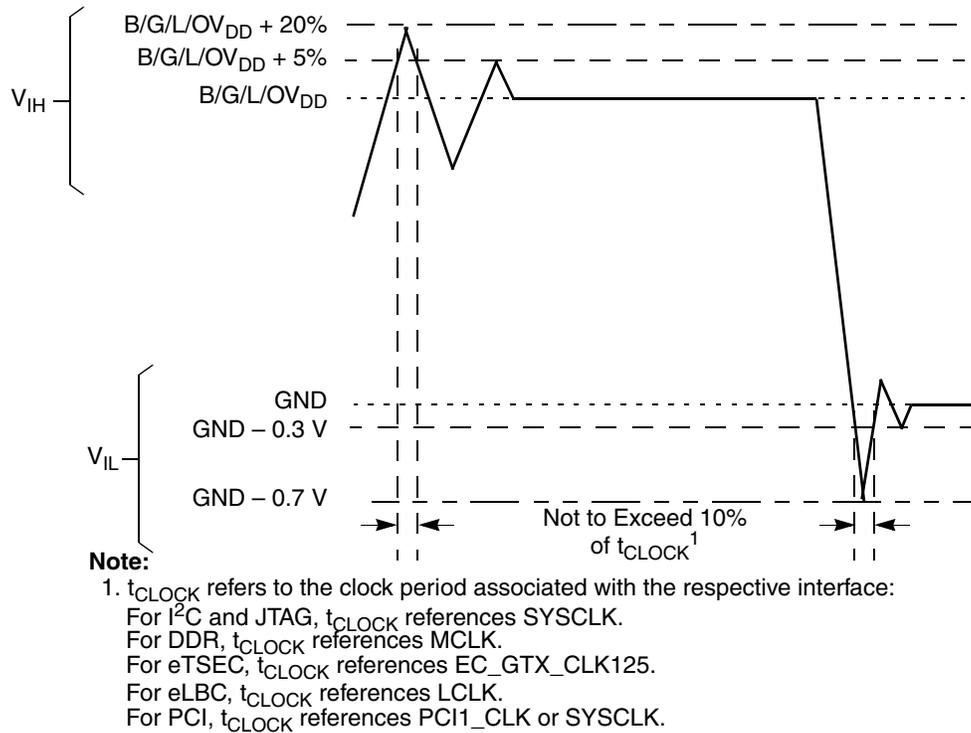

Figure 7. Overshoot/Undershoot Voltage for $G_{V_{DD}}/O_{V_{DD}}/L_{V_{DD}}$
3. (M,L,O) V_{IN} and MV_{REF} may overshoot/undershoot to a voltage and for a maximum duration as shown in Figure 7.